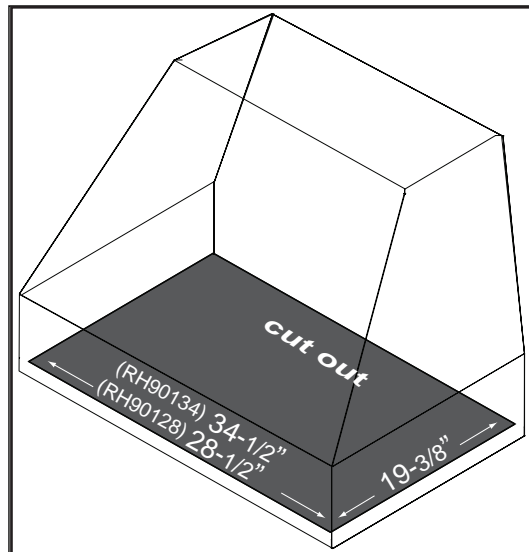

FIG. 1
2. Cut out an opening in the bottom of the cabinet by following the dimensions in FIG. 1. If ducting the one piece liner horizontally, also cut out an opening in the back of the cabinet (if applicable). FIG. 2.